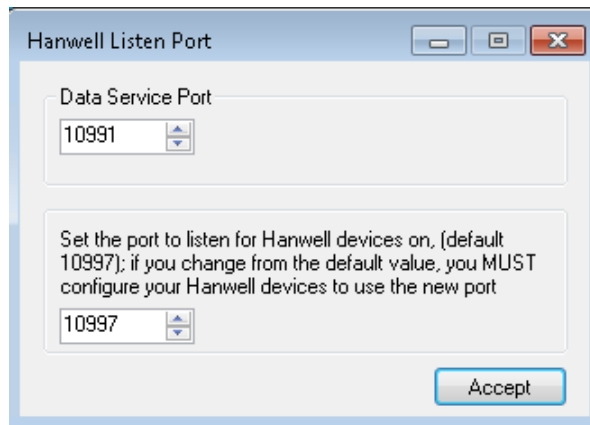

Figure 146
- The **Hanwell Listen Port** window is displayed. See Figure 146 below: